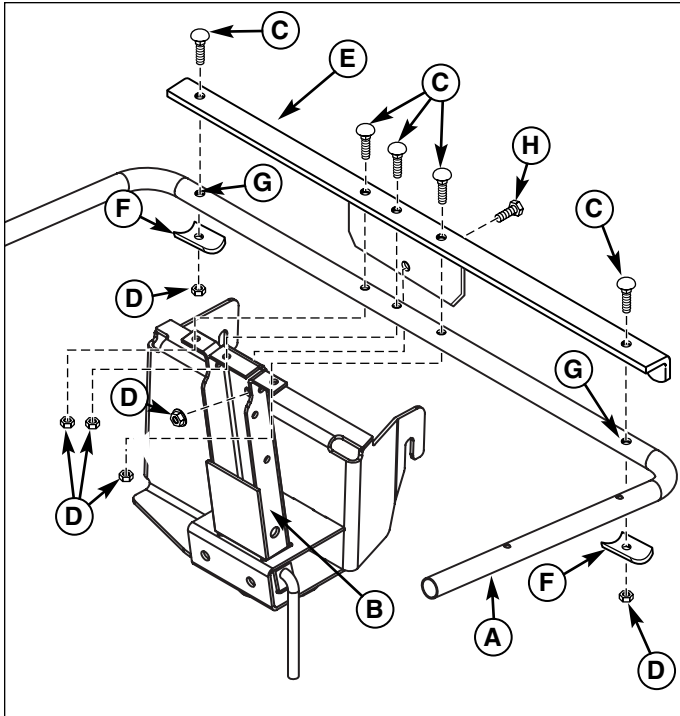

Figure 9. Install "U" Tube
8. Install the "U" tube (A, Figure 9) and "L" channel (F) to channel assembly (B) securing with 5/16-18 x 3/4 carriage bolts (C) and 5/16-24 nuts (E).
9. Using the "L" channel as a guide drill two 11/32 holes (G) in "U" tube (A) as shown. Install 5/16-18 x 1-3/4 carriage bolts (C) through new holes (G) and secure with saddle clamps (F) and 5/16-18 locknuts (D) and 5/16-18 nuts (E).
10. Install 5/16-18 x 3/4 capscrew (H) and 5/16-18 locknut (D) as shown.